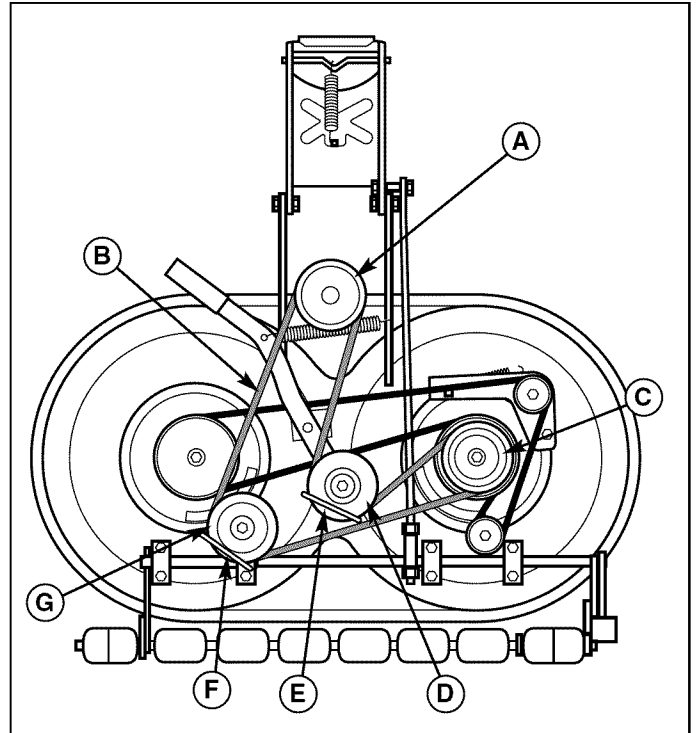

Figure 58. PTO Belt Replacement
3. Note the position of the idler pulley belt guides (E & F, Figure 58) when installed. Loosen the idler pulley capscrews and remove the belt from the idler pulleys (D & G).
4. Install the new belt (B) as shown. When the mower deck is installed on the tractor, the belt wraps around the PTO clutch pulley (A), backside idler pulley (D), mower deck drive pulley (C), and v-idler pulley (G).